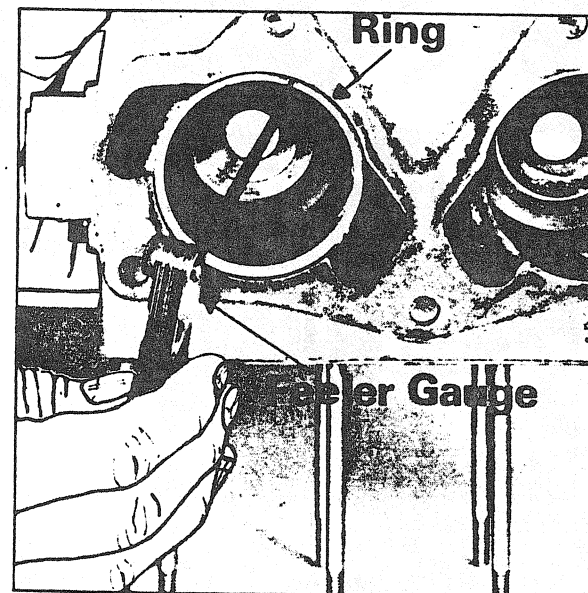

FIGURE 27
- With a feeler gauge, measure the distance between the ring ends. The edge gap should be between .003" to .007" (fig. 27).